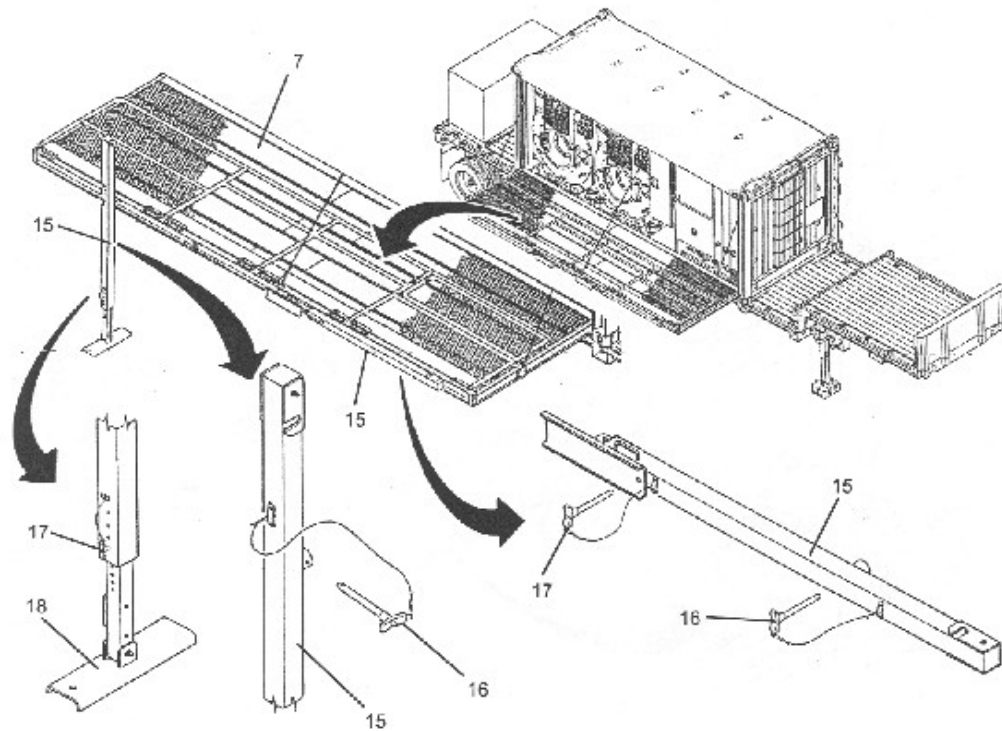

Figure 3-39
- j. Use winch (9) to lower platform (7) until platform is level with ISO frame.
- k. Lower and secure two support legs (15) as follows:
- (1) Pull quick-connect pin (16) out of support leg (15).
- (2) Pull quick-connect pin (17) out of support leg (15) then rotate support leg to vertical position.
- (3) Install quick-connect pin (16) to secure support leg (15) to platform (7).
- (4) Adjust height of support leg (15) so that foot (18) has solid contact with ground and is supporting weight of platform (7).
- (5) Install quick-connect pin (17) to fix position of support leg (15).
- l. Position stairs (19) onto platform (7) then secure with two quick-connect pins (20).
- m. Install handrails (21) onto stairs (19) then secure each handrail with two quick-connect pins (22).
- n. Unhook shackle (5) from u-bolt (6). (See Figure 3-39)